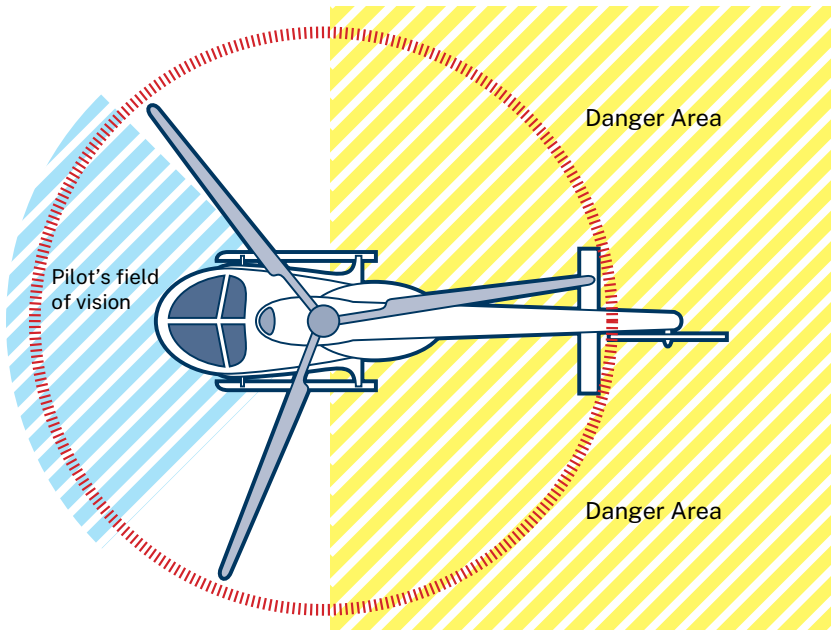

Figure 10 Working around helicopters
- Stand outside the main rotor disc area and await the pilot's signal before approaching the helicopter in a crouched position (Figure 10).